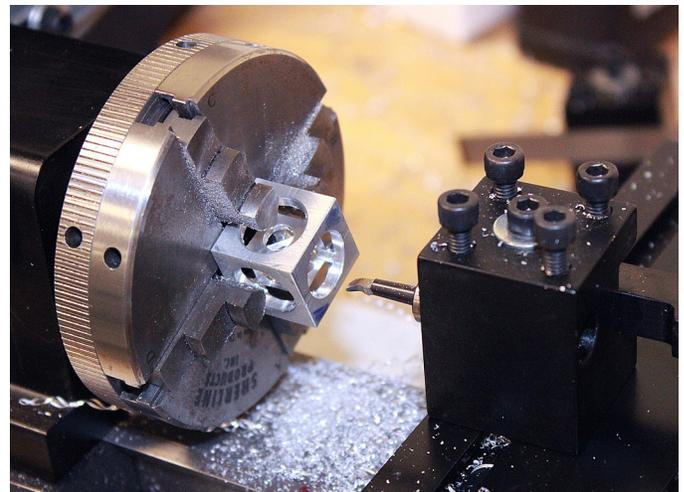

FIGURE 6—The special undercut boring tool P/N T3061 is used to release the inside cubes.
4. Finish face and undercut five of the six sides of the .209" cube. For this operation you will be using the hand ground "undercut tool" that was made from the second 3061 Boring Tool (See Fig. 7.) Undercut to .335" diameter at .270" deep. At the .270" depth, you will be taking a .003" finish pass on the face of each side of the cube. **IMPORTANT! Do not undercut all six sides!** I suggest marking one side with a magic marker so you will know which one to leave for last. (See Figure 6.)